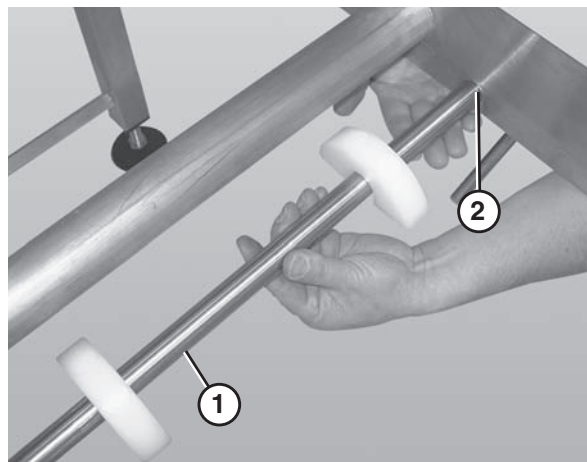

Figure 43
2. Slide the return shaft (Figure 43, item 1) up and through the large slot (Figure 43, item 2) in the frame (picture shown without the belt or wear strips).
3. Push up on the return shaft (Figure 43, item 1) and slide the notched end of the shaft through the small slot on the opposite side of the frame.